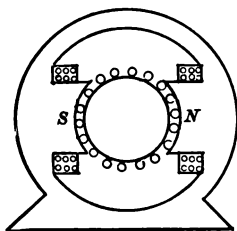

FIG. 312—Bipolar motor.
- Figure 312 represents a bipolar motor with the armature revolving counter-clockwise. Copy it and indicate by dots and crosses\* in circles, the direction of the various currents.